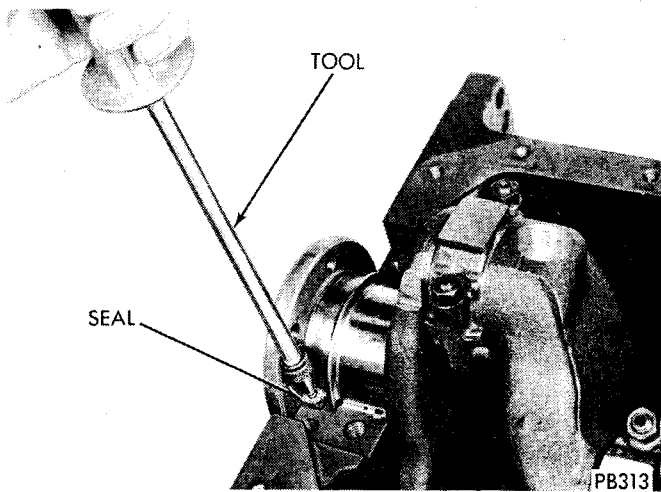

Fig. 43—Removing Upper Oil Seal With Tool C-4148
(3) Remove upper rope seal by turning in Tool C-4148 into the end of the seal, being careful not to damage to the crankshaft (Fig. 43). Pull the seal out with the tool while rotating the crankshaft.